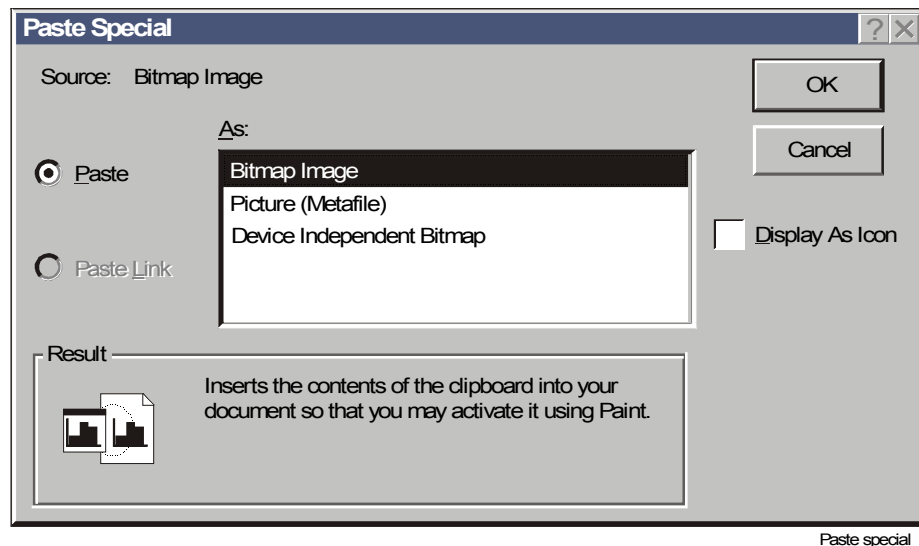

Figure 6-1: Paste Special Dialog Box
1. On the Edit menu, select Paste Special. The Paste Special dialog box appears (Figure 6-1).